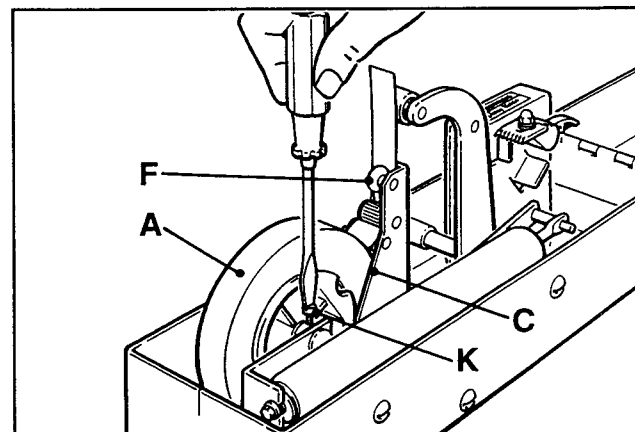

Figure 4
Tape Web Alignment – Refer to Figure 4. Center the tape on the crease wheel (F) by loosening the screw (K) and sliding the tape roll (A) in the desired direction. Allow for clearance between the edge of the tape roll and the side of the stripper arm assembly (C). Retighten screw (K). This adjustment must be made for each different width tape used.